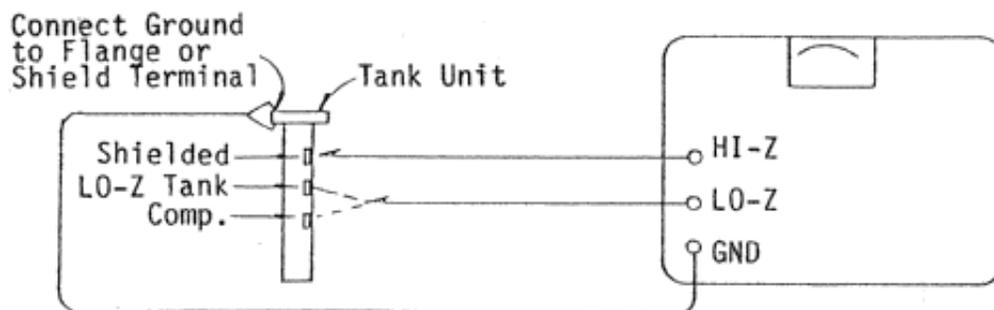
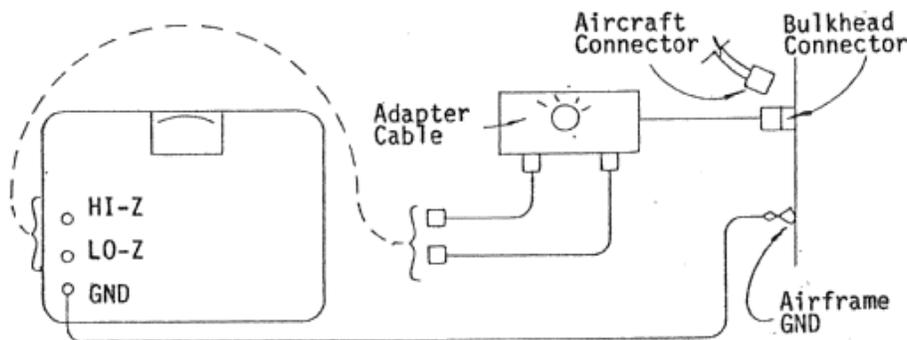

Figure 8 INSULATION TEST, CONFIGURATION #3
Figure 9 INSULATION TEST, CONFIGURATION #4
- (1) Configure the adapter cable and unit as shown in either Figure 8 or Figure 9.
Note: Adapter harnesses are available from this manufacturer for connecting to certain aircraft equipped with probe system bulkhead connectors. The harness has a switch for selecting each of the individual probes for insulation and capacitance tests. It then connects directly to the test set receptacles for resistance or capacitance testing as shown in Figure 9.
- (2) Set the T/S TEST POINT switch to LO-Z/HI-Z.
- (3) Place the Test Set's ON/OFF switch to ON. (If the configuration used is in accordance to Figure 9, also rotate the adapter's Probe Selector switch to one of its positions.)
- (4) Rotate the INS TEST POINTS selector switch to GND/SH.
- (6) Rotate the INS TEST POINTS selector switch to each of the remaining positions. Repeat step (5) for each switch position. (If configuration is in accordance with Figure 9, access the other bulkhead connectors and repeat the procedure to read resistance.)
- (7) Turn T/S set OFF.